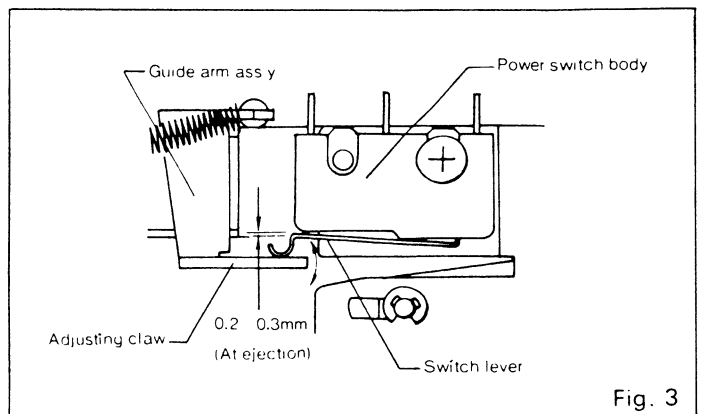

Fig. 3
3. Adjustment of Power Switch (See Fig. 3)